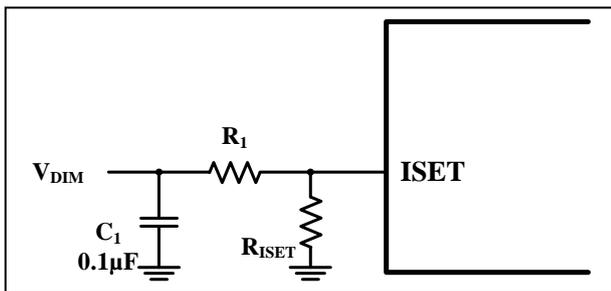

Figure 15 Analog Dimming
The IS31LT3117 can also be dimmed by a voltage source applied directly through an external resistor to ISET pin (as the Figure 15). The R_1 value can be chosen by below Equation (2):